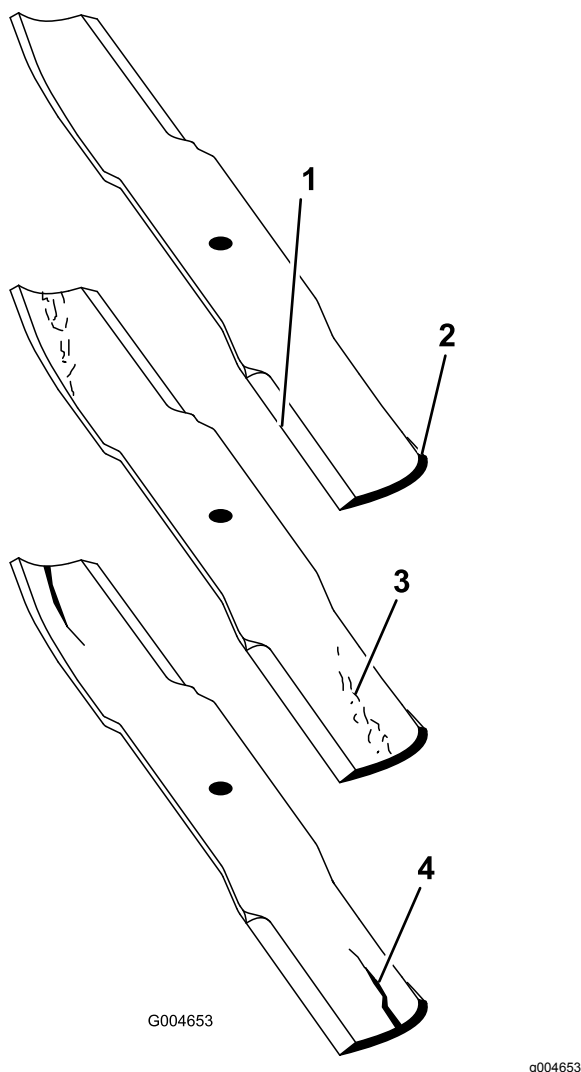

Figure 89
2. Examine the cutting ends of the blade carefully, especially where the flat and curved parts of the blade meet (Figure 89).
Note: Because sand and abrasive material can wear away the metal that connects the flat and curved parts of the blade, check the blade before using the mower. If you notice wear (Figure 89), replace the blade.